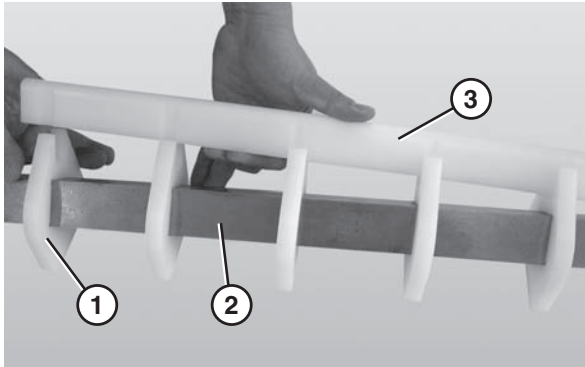

Figure 86
1. Slide the nose bar pucks (Figure 86, item 1) onto the nose bar drive post (Figure 86, item 2).
2. Attach the nose bar wear strip (Figure 86, item 3).